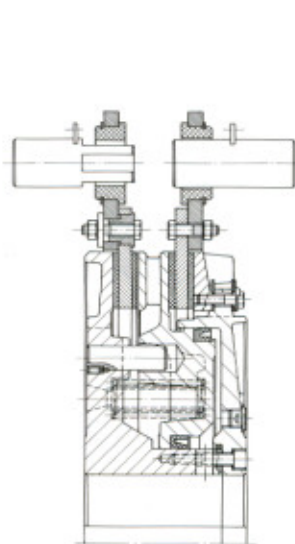

fig. 5 LKBZ
#### 4.1.4 Installation of the clutch disc (5) on C-B-C types LKBZ and LKBZU (fig. 5 and 6)